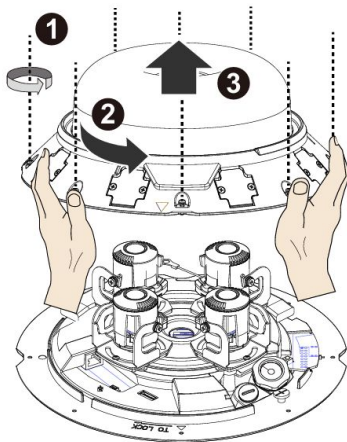

Figure 1-2
Step 2 Loosen all 8 of the captive T10 screws. Twist the dome cover counterclockwise, then remove the dome cover. See Figure 1-2.